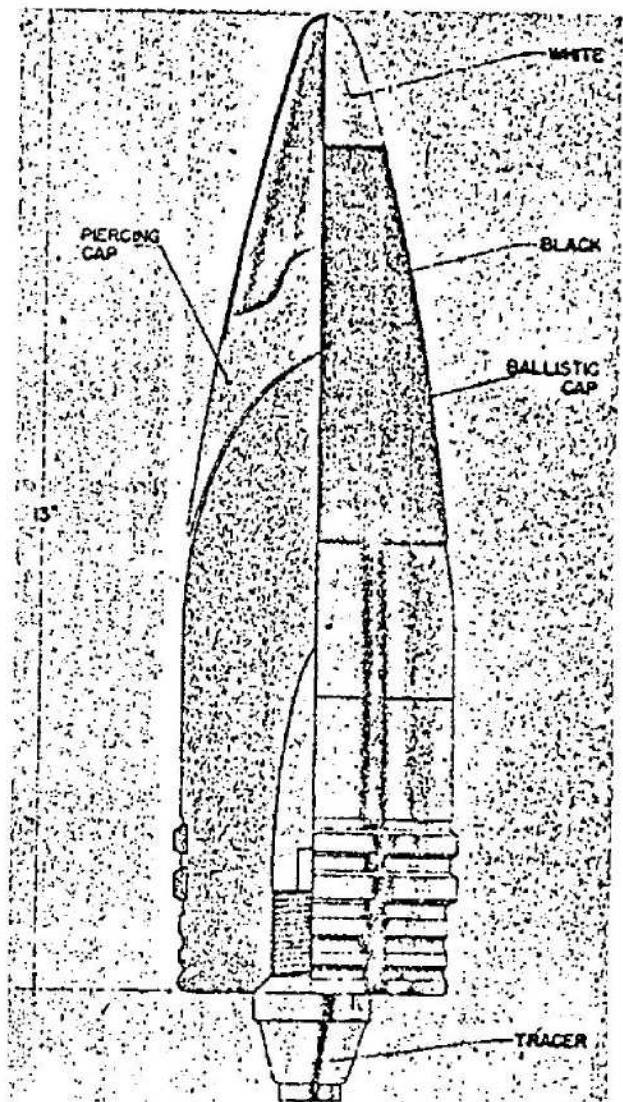

Figure 426—A. P. Projectile for 88-mm Antitank Gun, 88-cm Pzgr. Patr. 41
**GERMAN NOMENCLATURE:** 8.8-cm Pzgr. Patr. 41 (Panzergranate Patrone 41). (See fig. 426.)